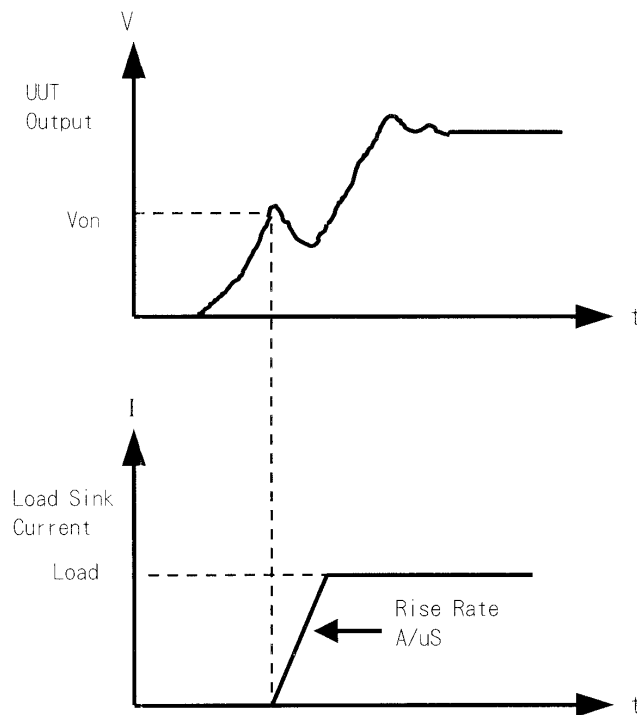

Figure 4-4 Von LATCH ON Current Waveform
**Set Von latch.** There are two operation modes for Von control. Von latch ON means that Load will sink current continuously when Von voltage reaches. Von latch OFF means that Load will stop sinking current when UUT voltage is under Von voltage. The default setting of Von latch is OFF. Figure 4-4 and 4-5 show Von LATCH ON and OFF current waveform separately.